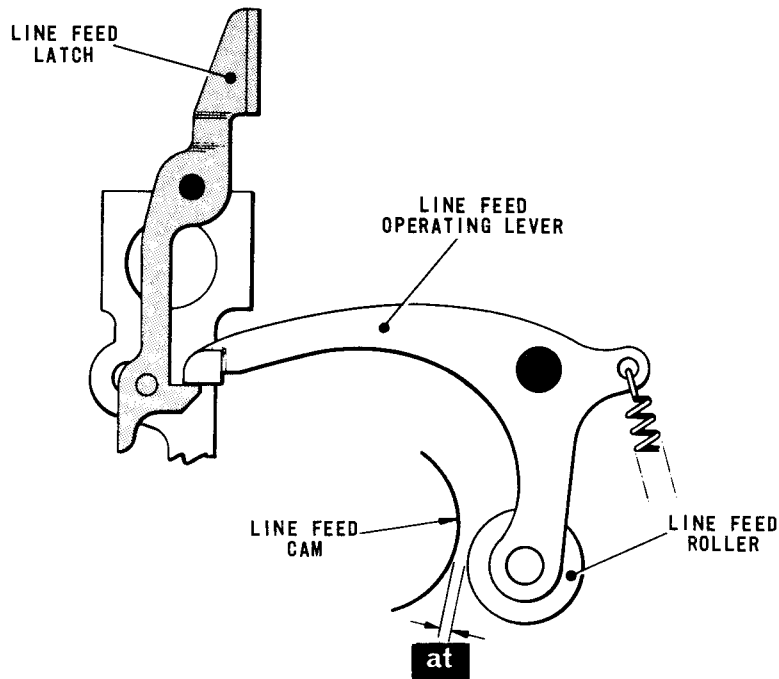

Fig. 4.36 LINE FEED OPERATING LEVER
- 42.3 Move the line feed latch, Fig.4.36, into the path of the line feed operating lever and pull the line feed roller outwards so that the lever is arrested by the latch hook, as shown in the figure. With this condition set up, check that there is a minimum clearance of .008 in. (dimension 'at') between the roller and the line feed cam.